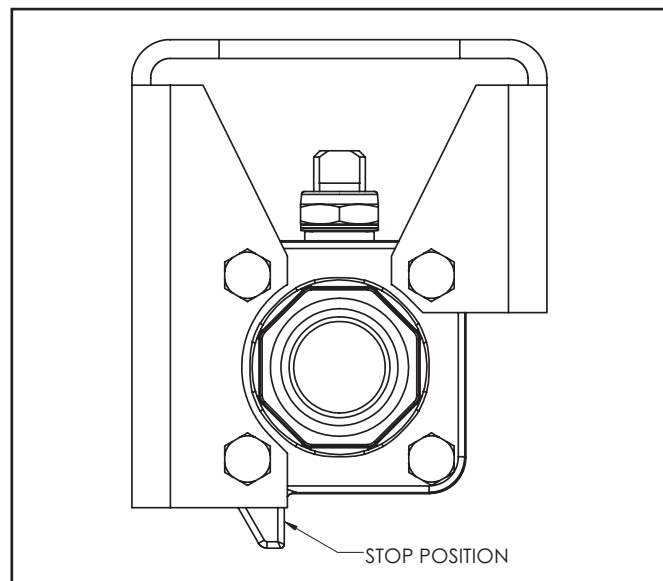

Figure 6 Stop Position for Actuated Valve
- c. From **Figure 6**, the ballooned part number, part name and quantity required.
8. Insert the second seat (5) in the body cap (2) so that the sealing surface of the seat is towards the ball (see **detailed diagram in Figure 6**).
9. Assemble the body cap (2) to the body (1). Insert the four body bolts (52). The bolt heads should be on the body cap.
NOTE: The handle stop is part of the body cap (2). When assembling the valve, be sure the handle stop that projects from the body cap is in the upper right corner as the body cap faces you (see **Figure 6**).
10. Place the four lock washers (55) over the body bolts (52). Thread on the four hex nuts (53) and tighten until snug.
11. Assure that the body and body cap are properly aligned. Tighten the body bolts alternately in a diagonal pattern in 2 lb.-ft. increments until achieving torque values in the Recommended Torques for Body Bolt Table in **Figure 6**.
9. Assemble the body cap (2) to the body (1).
11. Insert the four body bolts (52). The bolt heads should be on the actuator bracket. Place the four lock washers (55) over the body bolts (52). Thread on the four hex nuts (53) and tighten until snug.
12. Assure that the body and body cap are properly aligned. Tighten the body bolts alternately in a diagonal pattern in 2 lb.-ft. increments until achieving torque values in the Recommended Torques for Body Bolt Table in **Figure 6**.
- c. From **Figure 6**, the ballooned part number, part name and quantity required